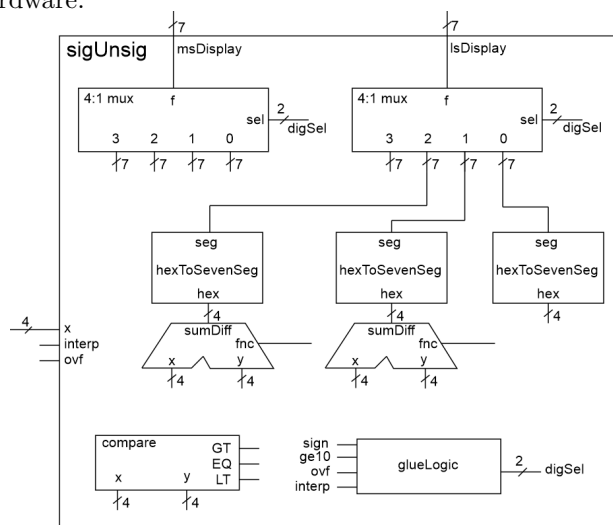

Figure 4: The internal architecture of the signUnsig module.
Now we are ready to put the pieces of the sigUnsig module together. The building blocks in Figure 4 are captured in the organization described by Listing 2, along with some extra hardware.
Table 1.3: Table 3: The input values to the 4:1 muxes in Figure 4.
In addition, you should add the following to Figure 4:
- Complete Figure 4, including: